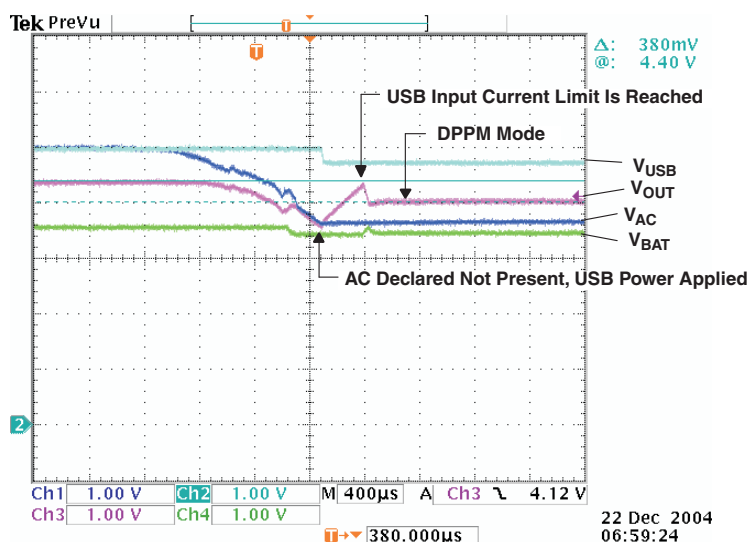

Figure 7. Remove AC – Power Transfer to USB
Figure 7 illustrates when AC is removed, power transfers to USB [PSEL = H (AC primary source), channel 1 (CH1) $V_{AC} = 5.4$ V, channel 2 (CH2) $V_{(USB)} = 5$ V, channel 3 (CH3) V_{OUT} , output current $I_{OUT} = 0.25$ A, channel 4 (CH4) $V_{BAT} = 3.5$ V, and $I_{(PGM-CHG)} = 1$ A]. The power transfer from AC to USB only takes place after the primary source (AC) is considered bad (too low, $V_{AC} \leq V_{BAT} + 125$ mV) indicated by the \overline{ACPG} FET turning off (open drain not shown). Thus, the output drops down to the battery voltage before the USB source is connected (sixth division). The output starts to recover when the USB FET starts to limit the input current (seventh division) and the output drops to the $V_{(DPPM-REG)}$ threshold.